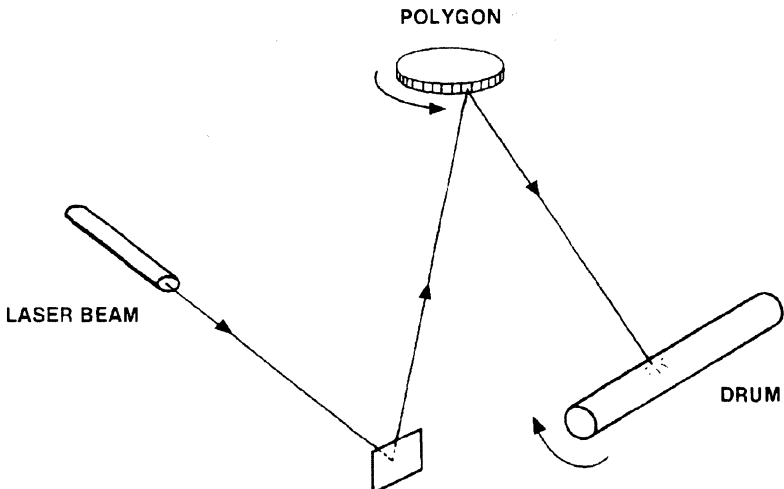

Figure 1-5 Scanning mechanism
2. Each bit in the video data causes the laser to illuminate or not, depending on its value (1 or 0). The beam hits a rotating, multifaceted polygon and bounces off the polygon toward the xerographic drum. The rotation of the polygon moves the beam across the surface of the xerographic drum. This mechanism is diagrammed in Figure 1-5.